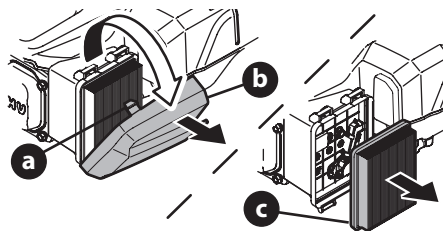

Figure 9
- Press down on the tabs (a) securing the air filter cover (b). Pull back and remove the cover (Figure 9).
- Remove the paper element (c) (Figure 9). To loosen debris, gently tap the filter on a hard surface. If the filter is excessively dirty or damaged, replace with a new filter.